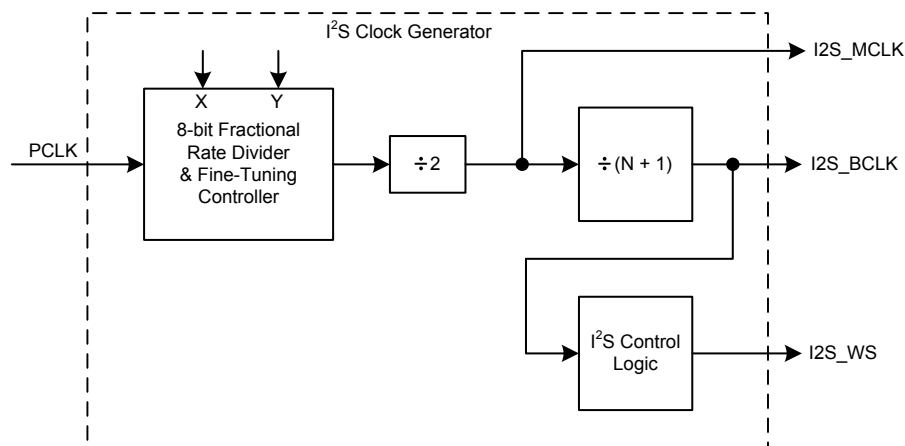

Figure 190. I²S Clock Generator Diagram
The main (I2S_MCLK) and bit clock (I2S_BCLK) rates for the I²S are determined by the values in the I2SCDR register. The required I²S bit clock rate setting depends on the desired audio sample rate desired, the format (stereo / mono) used and the data size. The main clock rate (I2S_MCLK) is generated using a fractional rate divider which is a divided down PCLK frequency of the I²S. Values of the numerator (X) and the denominator (Y) must be chosen to produce a frequency twice that of the main clock (I2S_MCLK). The output frequency of the divider is divided by 2 in order to get the duty cycle of the output clock more even. The I²S clock generator block diagram is shown in Figure 190. The equation for the fractional rate divider is: